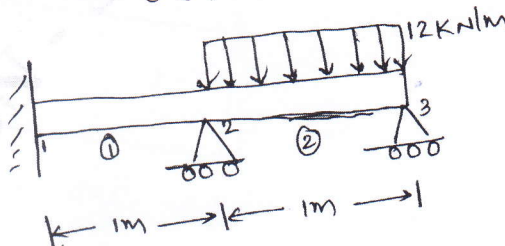

Fig Q5
- 5 For the beam and loading shown in Fig Q5, determine the slopes at 2 and 3.